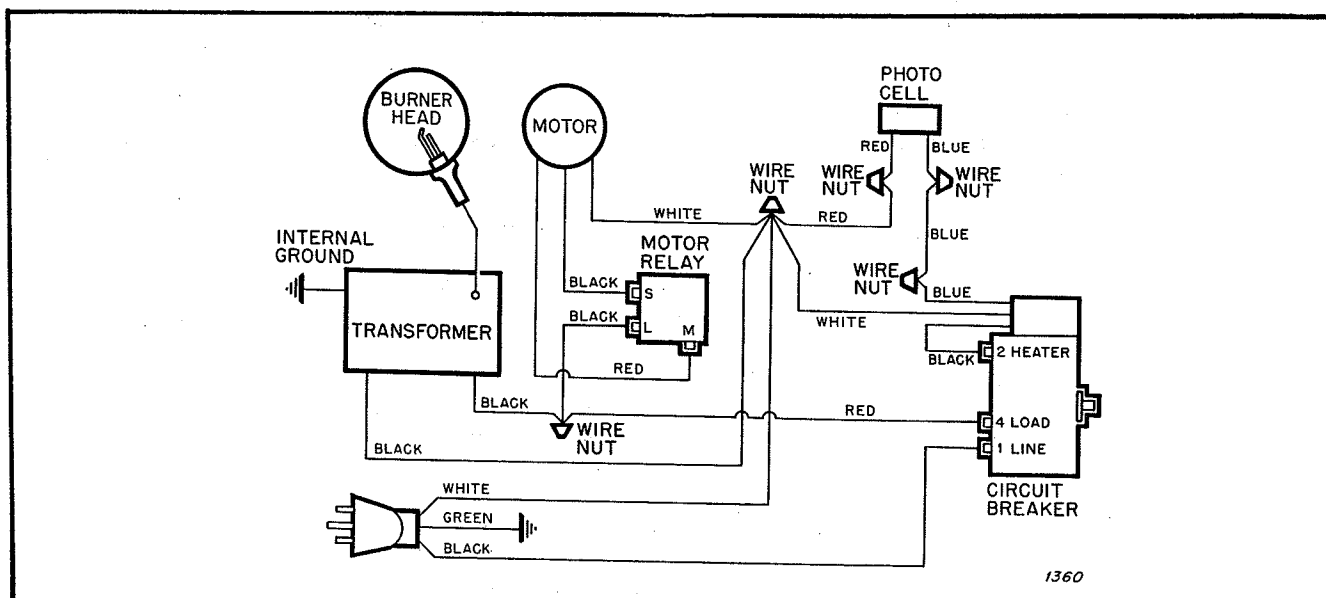

Figure 9. Wiring Diagram
5. Reinstall the attaching screws, and make wiring connections in accordance with Figure 9.
The heaters have 1/8 horsepower motors and separate starting relays. (See the Wiring Diagrams, Figure 9).
c. If the motor starts, install a new relay, and reconnect the wiring according to the Wiring Diagram, Figure 9.
(1) Internal fault in the motor, such as burned-out stator.
(2) Failure of the starting relay.